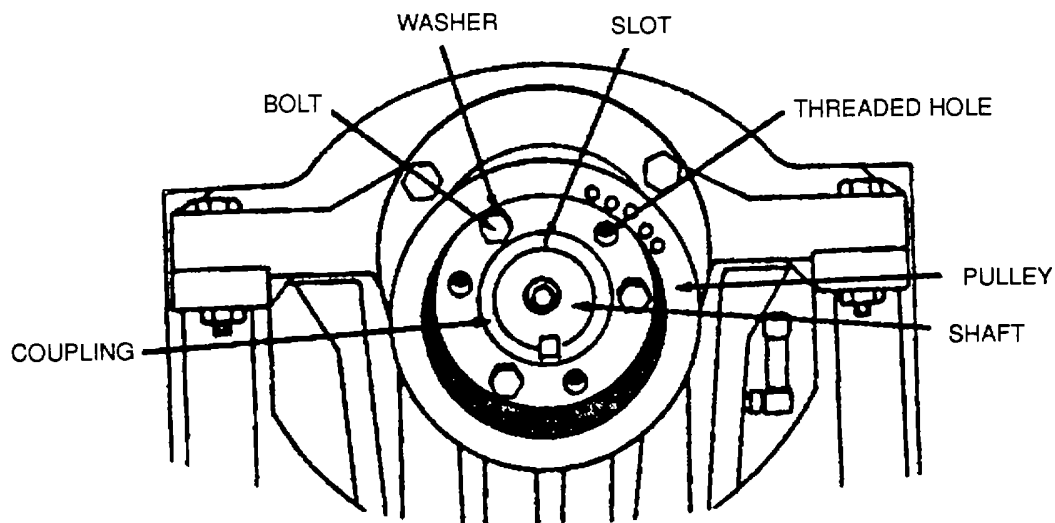

Figure 4-18. HP Pump V-belt Pulley.
- (1) Stop ROWPU system.
- (2) Close valve RO11.
- (3) Disconnect suction piping from pump Cover pipe opening.
- (4) Disconnect discharge piping from pump Cover pipe opening.
- (5) Drain pump by removing drain plug. Replace plug.
- (6) Remove V-belts (paragraph 4-8.3.11).
- (7) Remove three bolts from sheave (Figure 4-18).
- (8) Install three bolts in threaded holes of sheave. Tighten bolts evenly to remove pulley from bushing.
- (9) Remove three bolts from threaded holes of sheave.
- (10) Mark location of bushing on back of pump shaft.
- (11) Tap wedge in slot of bushing and remove bushing.
- (12) Remove four pump mounting nuts and lockwashers.